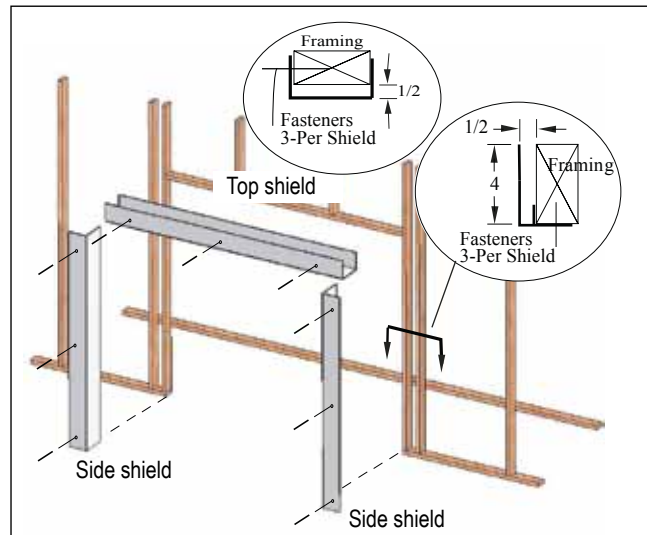

Figure 23. Combustible surround Shield, (three (3)-pcs).
Included with the **L52DF** Gas fireplace, is a heat shield fabricated from galvanized steel. The kit comes with three (3) pieces as shown below. This shield is to protect all adjacent combustible mantels and mouldings from excessive heat radiated by the cabinet of the fireplace. This shield must be installed as shown in **Figure 23**.